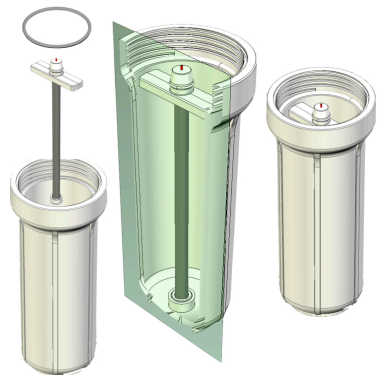

Fig. 8 - exploded view of Salt container
- ▶ Clean the container and O-ring with warm water. (Fig 8)